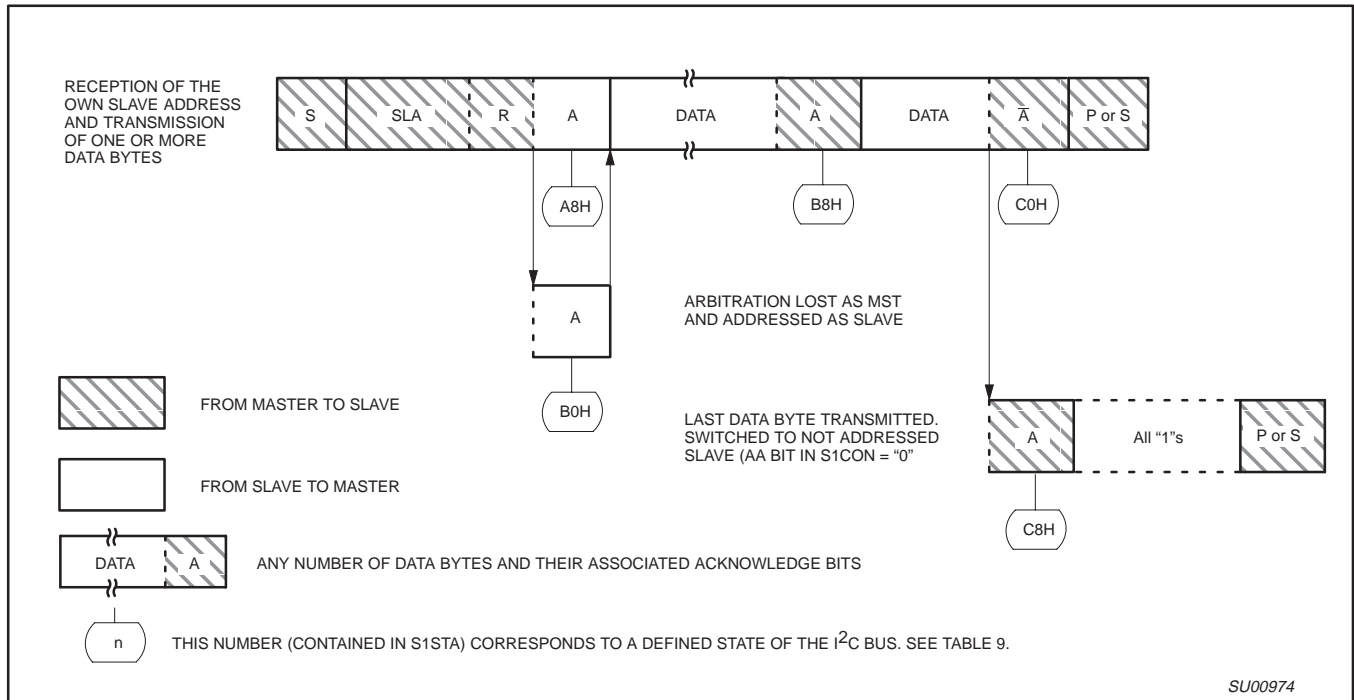

Figure 43. Format and States of the Slave Transmitter Mode
When SIO1 is in the addressed slave transmitter mode, state C8H will be entered after the last serial is transmitted (see Figure 43). When SI is cleared, SIO1 leaves state C8H, enters the not addressed slave receiver mode, and the SDA line remains at a high level. In state C8H, the AA flag can be set again for future address recognition.
Slave Transmitter Mode: In the slave transmitter mode, a number of data bytes are transmitted to a master receiver (see Figure 43). Data transfer is initialized as in the slave receiver mode. When S1ADR and S1CON have been initialized, SIO1 waits until it is addressed by its own slave address followed by the data direction bit which must be “1” (R) for SIO1 to operate in the slave transmitter mode. After its own slave address and the R bit have been received, the serial interrupt flag (SI) is set and a valid status code can be read from S1STA. This status code is used to vector to an interrupt service routine, and the appropriate action to be taken for each of these status codes is detailed in Table 9. The slave transmitter mode may also be entered if arbitration is lost while SIO1 is in the master mode (see state B0H).